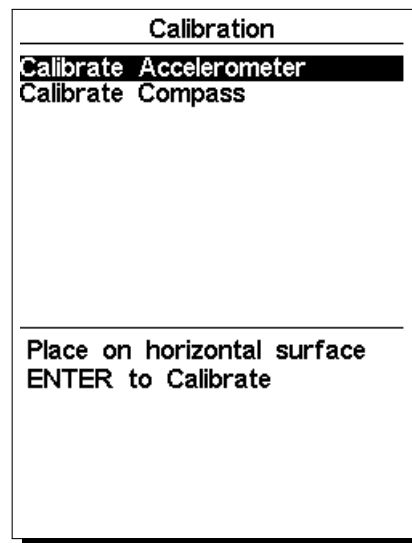

Figure 8.1: Calibrate Accelerometer menu option
1. Go to Menu->Settings->Calibration and choose the "Calibrate Accelerometer" option (see Figure 8.1);